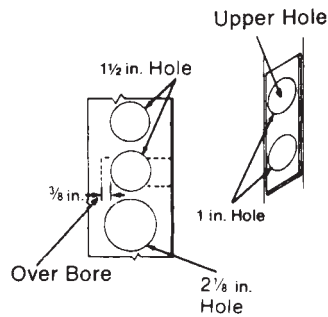

Figure 13.58 Boring holes.
5. Bore two 1-inch holes in the edge of the door. The upper hole should be extended ⅜ inch beyond the far side of the middle hole on the door panel (Fig. 13.58). Mortise the edge of the door for the latch front.